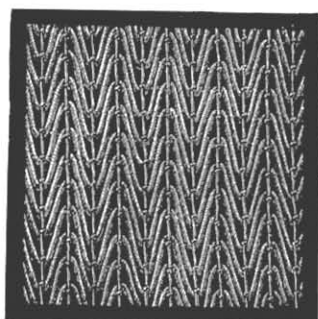

Fig. 42.
**Ground in waved stitch** (fig. 42). — Carry the thread through every row of the net over two squares and behind a knot and you have the stitch in question.